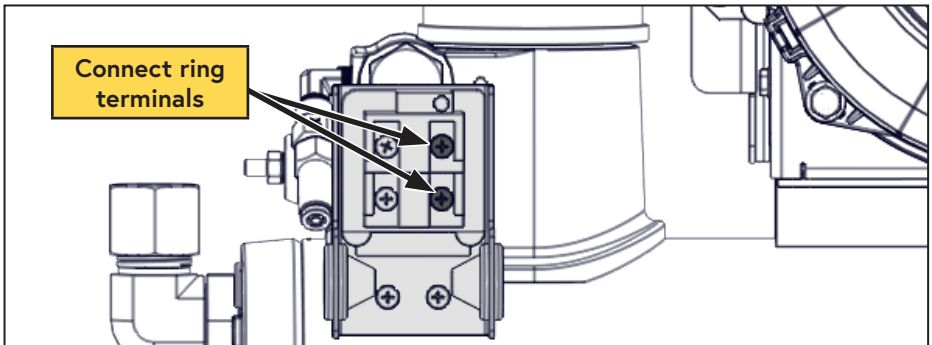

Figure 41 — Connect pressure switch
- Remove the cover from the WHASP Tank pressure switch and connect the 2 ring terminals from the control module to the pressure switch on the WHASP Tank (not polarity dependent) (Figure 41).